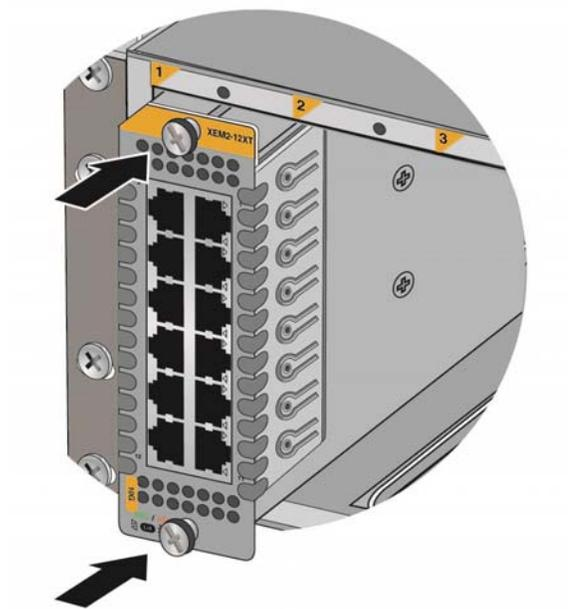

Figure 59. Seating an Ethernet Line Card in the Chassis
5. When you feel the line card make contact with the connector on the backplane of the chassis, gently press on the top and bottom of the faceplate to seat the card on the connector. Refer to Figure 59 on page 112.